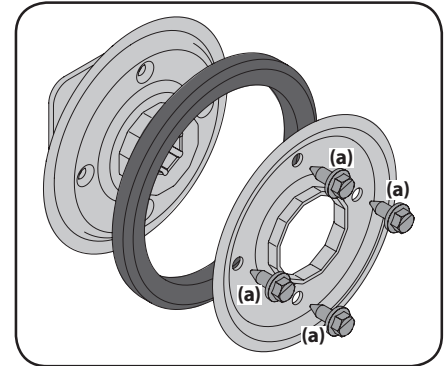

Figure 4-23
- Remove four screws (a) which secure friction wheel's side plates together. See Figure 4-23.